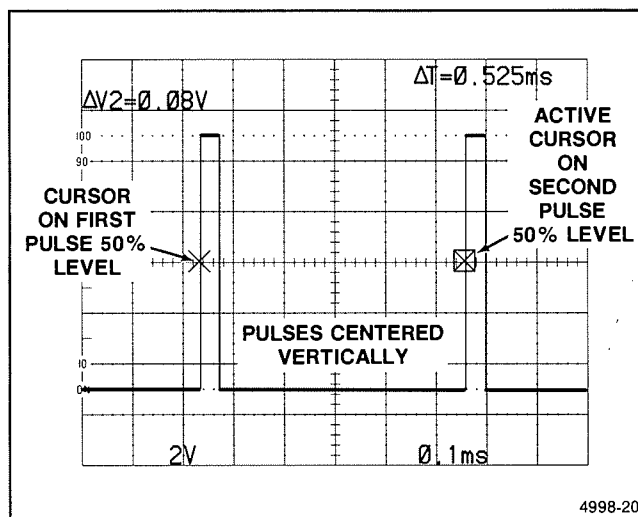

Figure 6-7. Time difference between repetitive pulses.
9. Push the SELECT C1/C2 button to select the other cursor and use the CURSORS control to move the active cursor to the 50% level on the leading edge of the second pulse (see Figure 6-7).